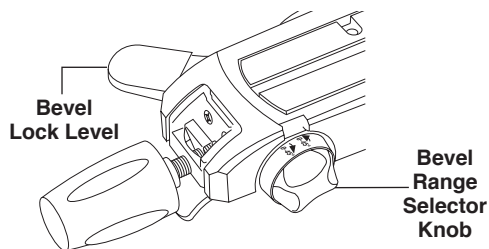

Figure 33.
Choose the desired bevel range using the bevel range selector knob (Figure 33).
- Lift bevel lock lever to release bevel lock (Fig. 33).